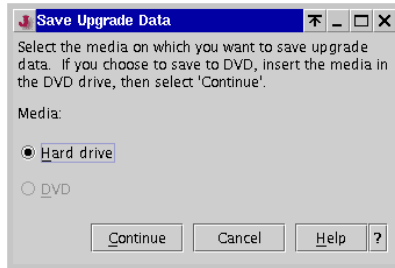

Figure 6-5 Save Upgrade Data (Hard drive)
3. An information window opens that prompts you to select the media (Hard drive or DVD), as shown in Figure 6-5 on page 114. Click **Continue**.